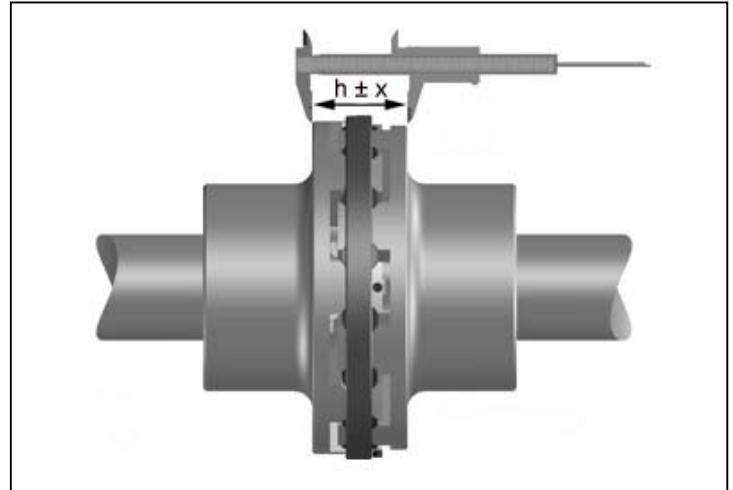

Fig. 8
- Measure the axial flange distance h according to fig. 8.